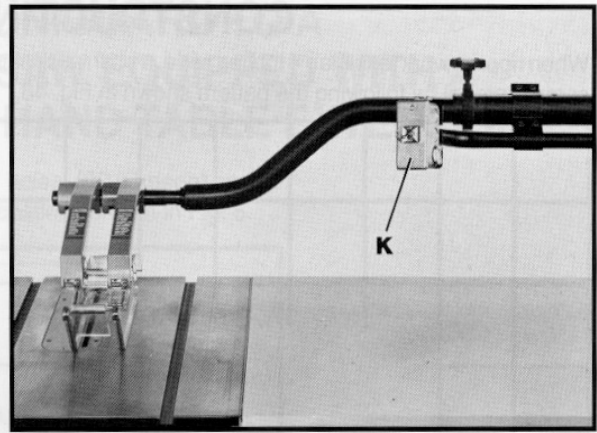

Fig. 46
7. Fig. 46, illustrates a 10" Delta Contractor's Saw switch (K) mounted to the switch arm.